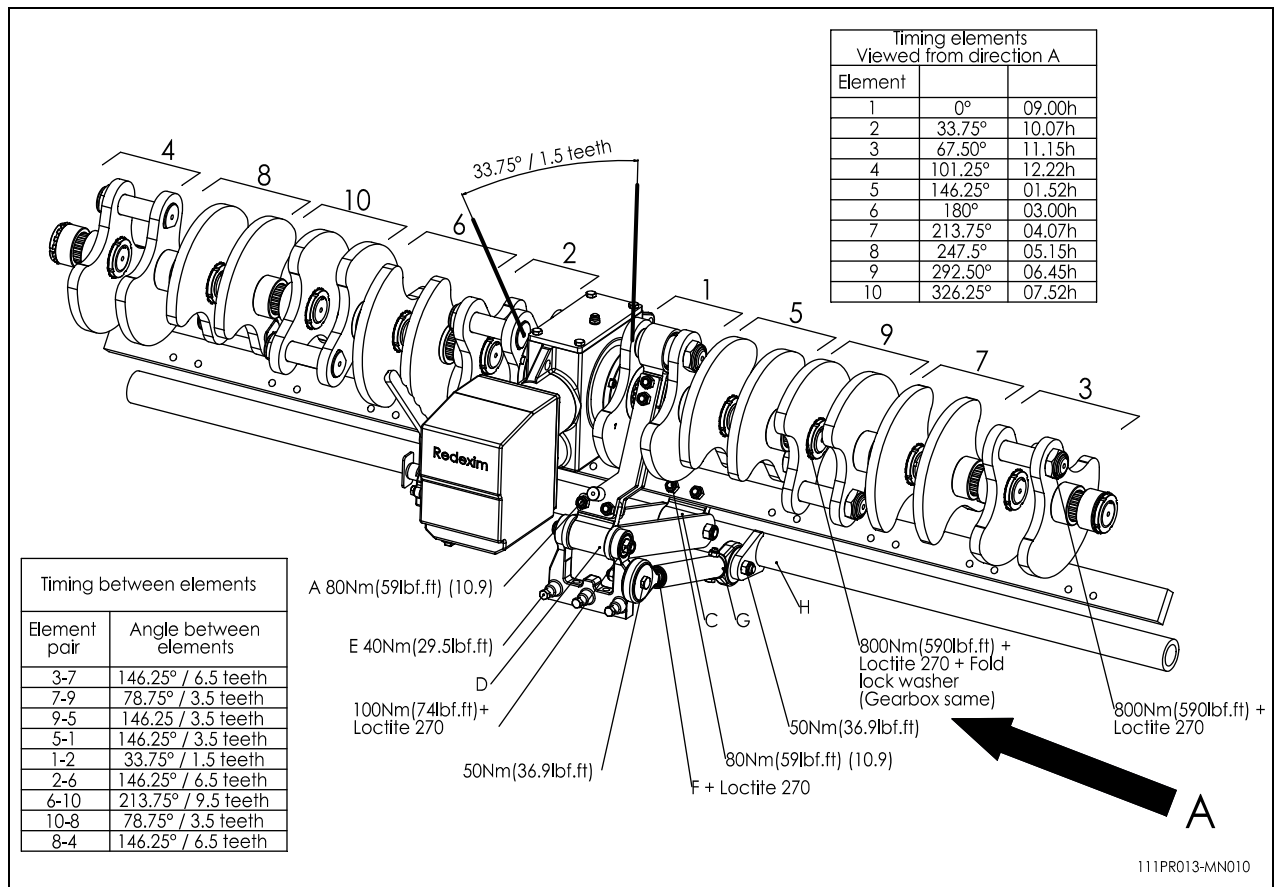

Fig. 8
In the above fig.8. the torque setting for the several bolts/nuts is given and the timing of the crankshaft.
In fig.8., the torque settings of the most important bolts/nuts are given. For the ones the torque setting is not mentioned, please be sure that they are tightened as a similar size bolt/nut would be tightened. If bolts/nuts are working themselves loose, loctite may be applied.
9. Tighten and lock the nut according specifications (fig.8).
In the event that an element is no longer in line with the adjacent elements, the alignment can be corrected as follows (see fig.8.):